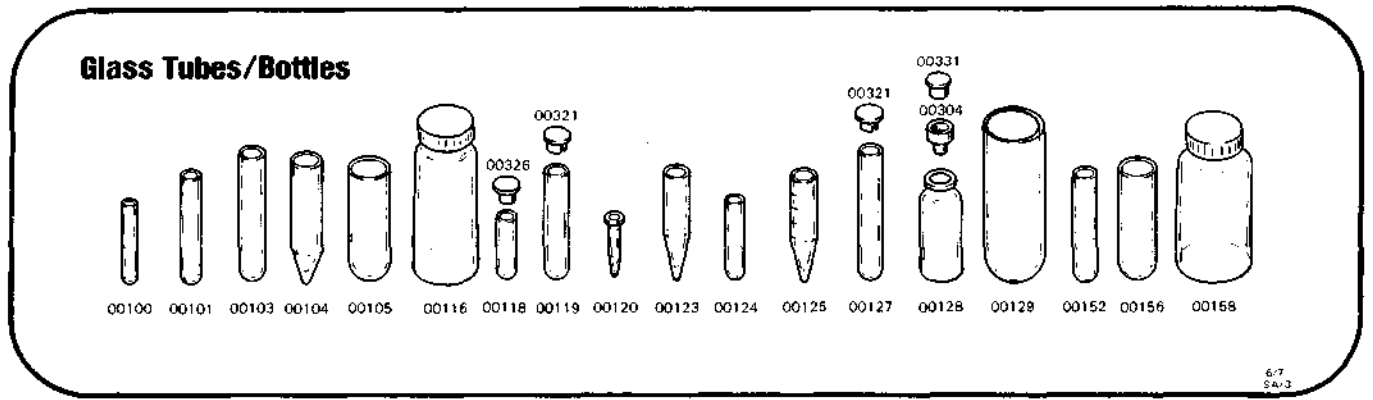

Figure 1-2. Glass Tubes and Bottles
- b. Part Number — Gives the part number assigned to each item by the Biomedical Division\*. Tables 1-3, 1-4 and 1-5 are keyed by part number to figures 1-2, 1-3 and 1-4 respectively. The figures illustrate the tubes, bottles and covers listed.